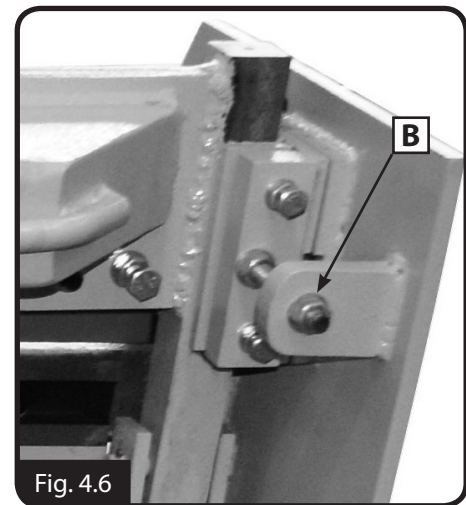

Fig. 4.6
3. Using the adjustment nuts (B in Fig.4.6). Adjust the blade until the correct gap is set.